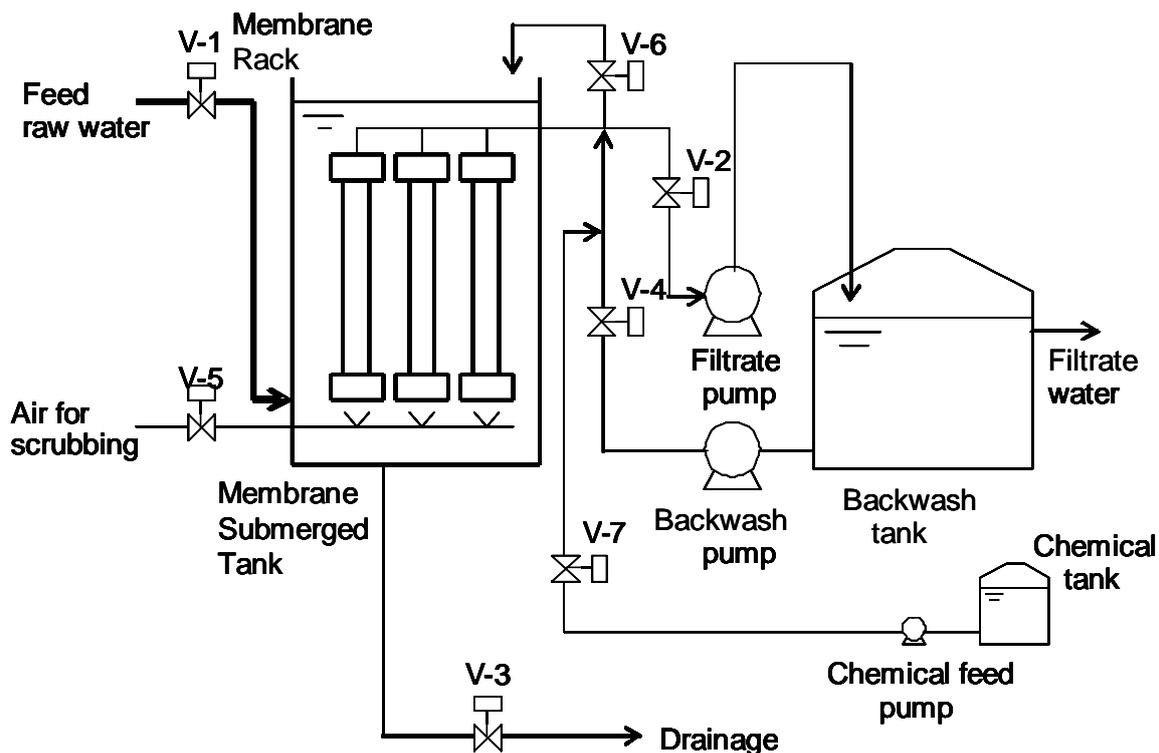

Fig. 9 Typical example of piping
- (1) Check that all piping is connected appropriately and flushed out prior to the operation. Fig. 9 shows a typical example of piping.